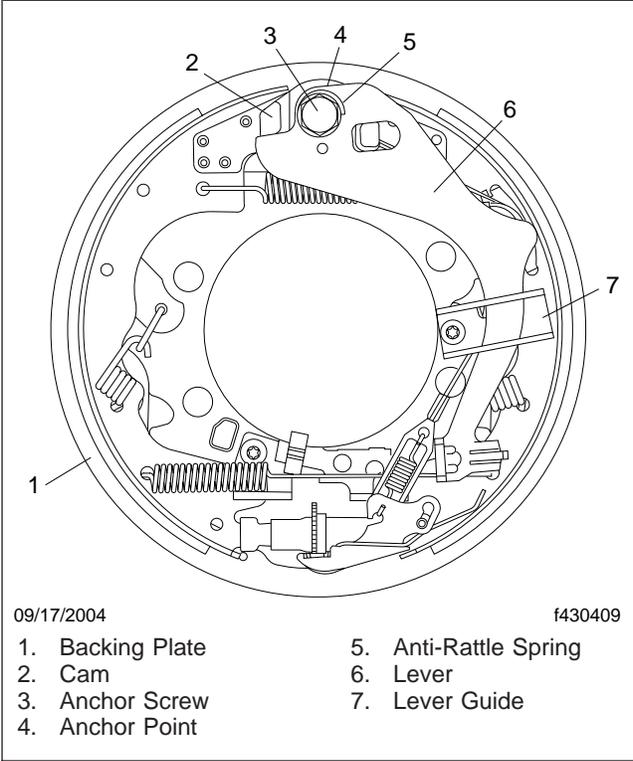
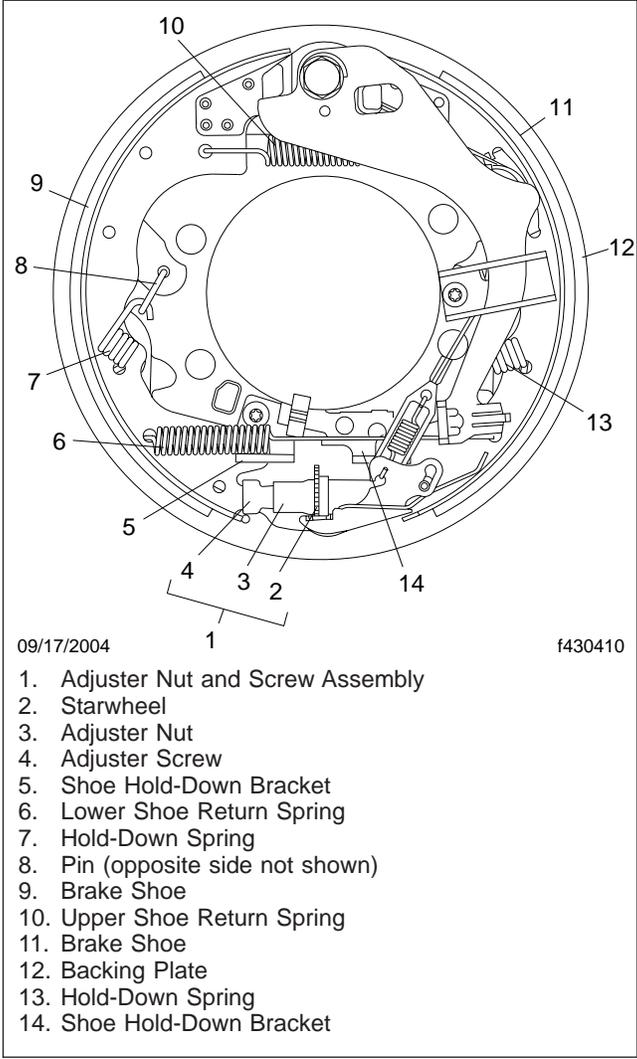

Fig. 2, Parking Brake Major Components
Fig. 3, Brake Shoes and Related Components
The foundation of the brake is a ductile iron backing plate that mounts to the differential pinion housing with four capscrews. Major actuating components are a cam and a lever, which are fastened to the backing plate by an anchor screw. An anti-rattle spring under the head of this screw prevents clatter. The anchor point for brake actuation and shoe abutment is located at the 12 o'clock position when the assembly is properly mounted. See Fig. 2.
Brake shoes are attached to the backing plate by hold-down springs and pins. See Fig. 2. Both shoes seat against the backing plate anchor post at the top and are connected by the adjuster nut and screw assembly at the bottom. Shoe hold-down brackets are permanently mounted to the backing plate to assist in guiding the shoes. The shoes are pulled toward each other by two low-tension shoe-return springs. Proper orientation of the various springs, including their hook ends, must be maintained for the brake to function properly. The starwheel used for adjusting shoe clearance to the drum is on the adjuster nut. See Fig. 3.
12. Using a brake shoe spring tool or needlenose pliers, remove both of the shoe hold-down springs. See Fig. 3.
7. Position the second shoe and the adjuster nut and screw assembly. See Fig. 3. The adjuster nut should be seated against the shoe with the adjuster cable guide and pin. Attach the shoe hold-down spring to the shoe hold-down pin, using a brake spring tool. See Fig. 3.